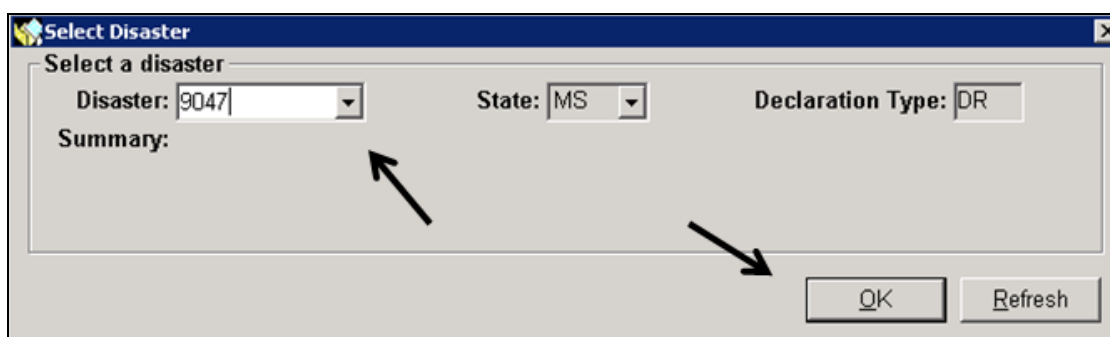

Figure 6-127: Mitigation > Projects > Application Development >
- The Select Disaster screen will appear. Enter or select the new disaster number to which the project is to be copied and select OK (Figure 6-127).